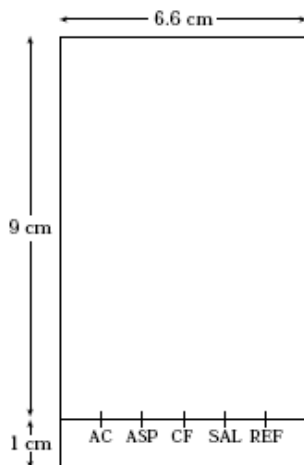

Figure 1. TLC plate.
2. Using a lead pencil draw a *light* line across the shorter dimension 1 cm from the bottom. Using a ruler as guide on the light line, mark off five equally spaced intervals on the line as shown in Figure 1.